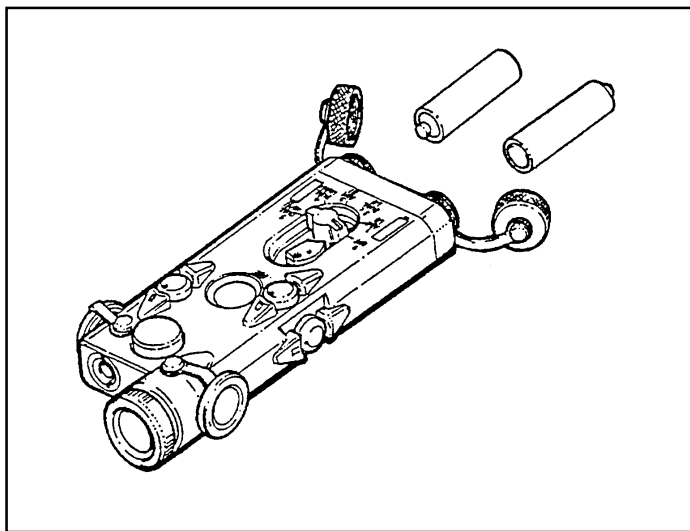

Figure G-11. AN/PEQ-2A battery installation.
The AN/PEQ-2A target pointer/illuminator/aiming light (TPIAL) (Figure G-11) is a Class IIIB laser that emits a highly collimated beam of infrared light for precise aiming of the weapon as well as a separate infrared illuminating beam with adjustable focus. A safety block is provided for training purposes (blue side), which limits the operator from selecting the high power modes (black side).
- a. **Battery Installation** (Figure G-11). Unscrew the battery caps and install two AA batteries. Orient the batteries as indicated by the markings on the AN/PEQ-2A body.